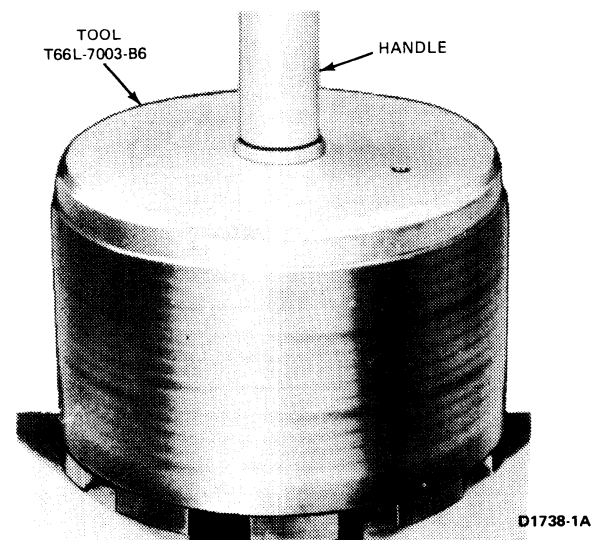

FIG. 83 Installing Low and Reverse Brake Drum Bushing
2. Install a new bushing with the tool shown in Fig. 83.